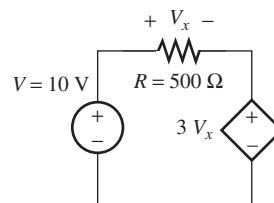

FIGURE P2.62 Circuit for Problem 2.62.
2.62 (A)* Find V_x in the circuit shown in Figure P2.62: